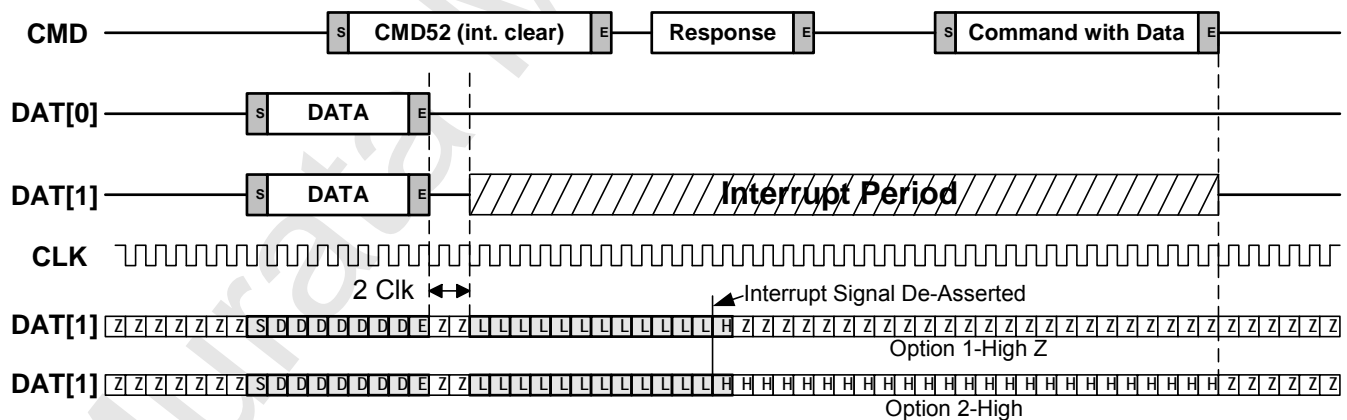
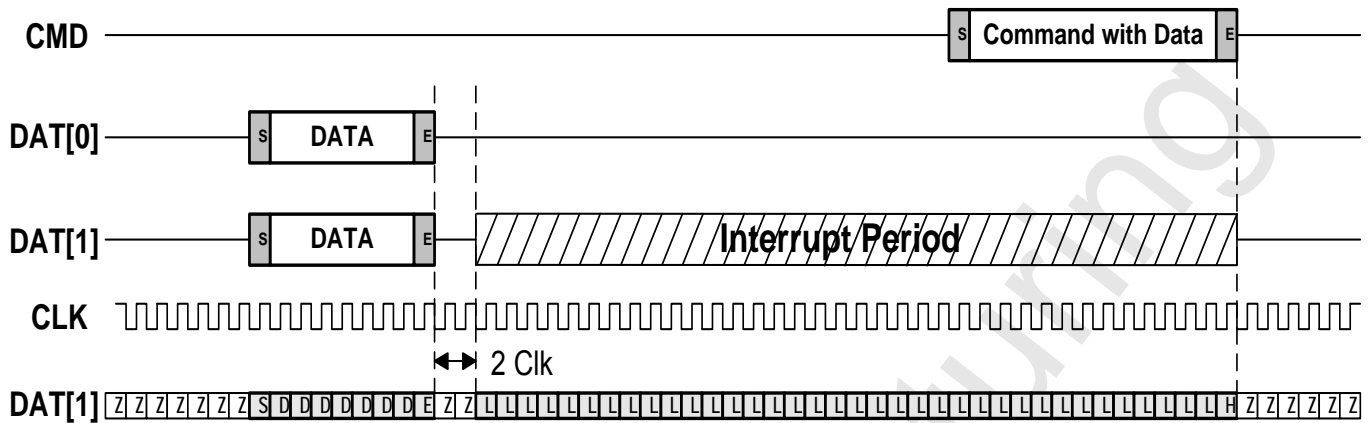

Figure 8-7 : Interrupt Cycle Timing
Figure 8-8 : Alternate Interrupt Cycle Timing
In the SD 4-bit mode the card shall drive DAT[1] high for a minimum of 1 clock cycle before terminating the Interrupt Period. This signaling is shown in Figure 8-7 : and shows the situation where the period of interrupt signaling is shorter than that of the Interrupt Period. In this example, the interrupt is cleared by a CMD52 write operation prior to the end of the Interrupt Period. The SDIO card can release the interrupt in one of two possible ways. Option #1 is for the SDIO card to place the DAT[1] into a hi-z after the single clock time of driving DAT[1] high (H). Option #2 is for the SDIO card to keep the DAT[1] line high (H) until the end of the Interrupt Period and then place the line into the hi-z state. Figure 8-8 shows the case where interrupt is de-asserted at the end of the Interrupt Period. In this case, the DAT[1] is driven to a high level prior to the card releasing the line to the hi-Z state.